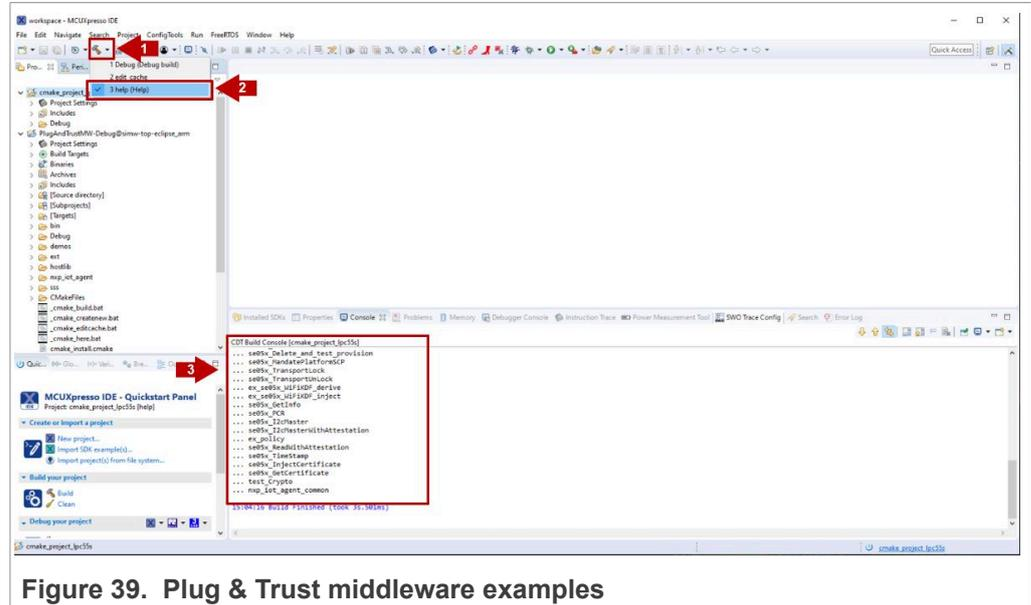

Figure 39. Plug & Trust middleware examples
- The MCUXpresso console will display the list of Plug & Trust middleware examples which can be compiled with the currently chosen CMake settings (see Figure 39).